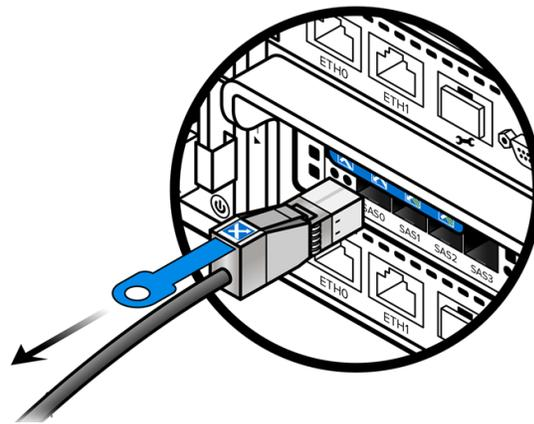

Figure 5-6. Removing a SAS Cable (Controller)
3. At the controller end of the faulty cable, pull the blue tab on the connector to release the latch. See Figure 5-6.